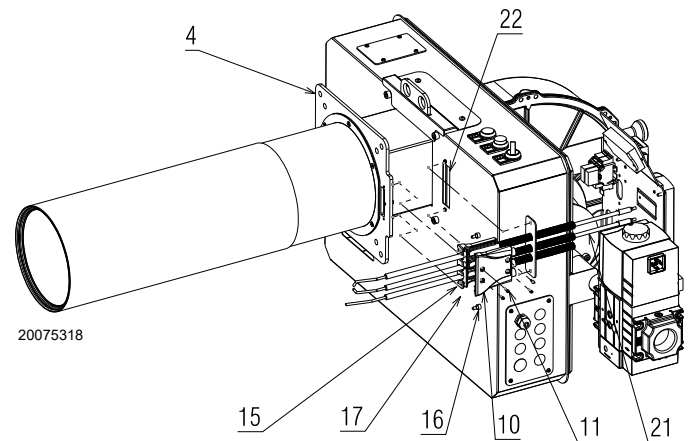
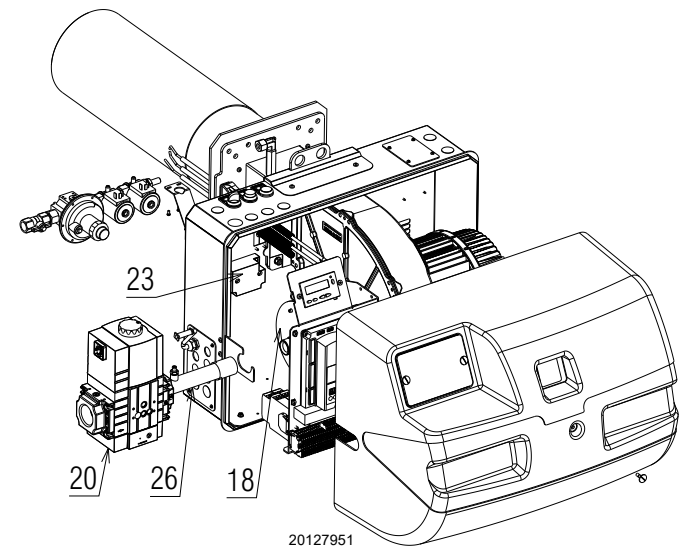

Fig. 18
Fig. 19
For the installation of the electrodes proceed as follows (Fig. 18 and Fig. 19):
- fix the flange 4)(Fig. 18) to the boiler plate and tighten the nuts 4). During this operation, take care not to touch the electrode unit.